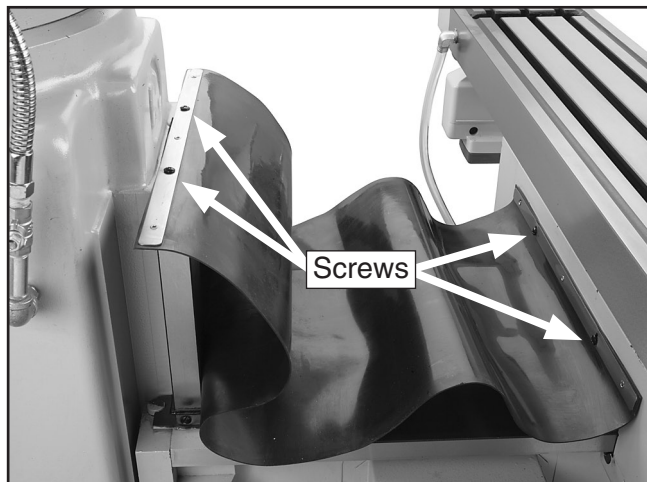

Figure 20. Rear way cover installed.
11. Move the table to the front until you can position the rear way cover over the saddle and vertical ways, then secure it in place with the four screws shown in **Figure 20**.